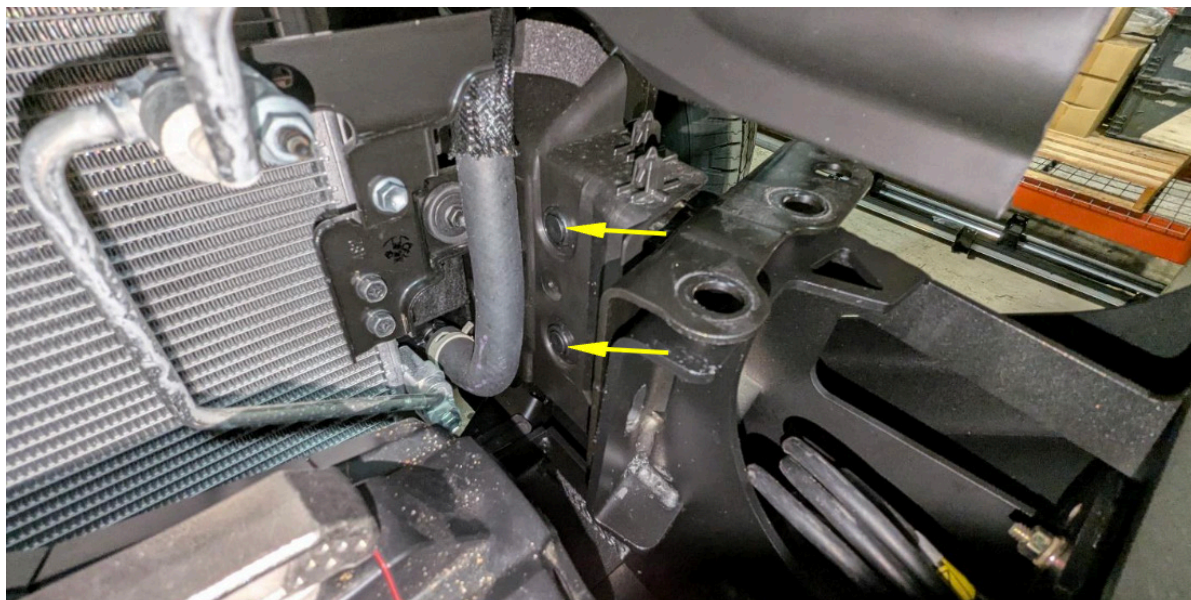

Figure 23
15. Using a panel pry tool, remove the two (2) push pins from the plastic frame covers inside of each frame rail to remove them from the vehicle. (Figure 23)